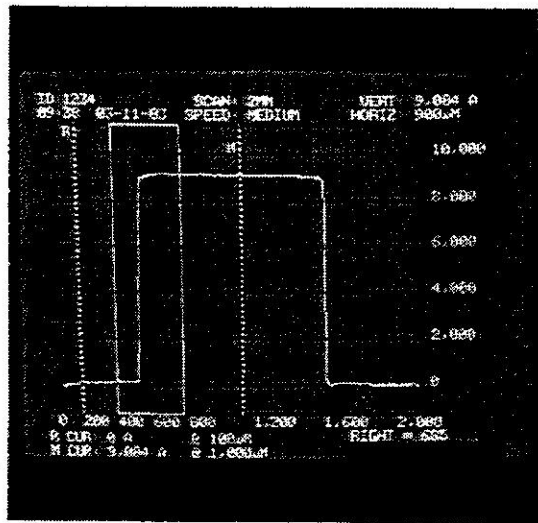
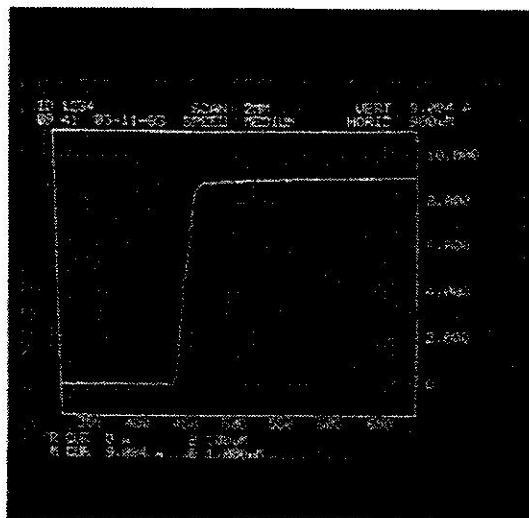

Figure 4-9. Moving the Boundaries
Figure 4-10. After REPLOTT
To magnify an area of interest, press **LEFT** and use the right arrow key to bring the left boundary near the leading edge of the step. Repeat the procedure using the **RIGHT**, **BOT** and **TOP** keys along with the appropriate arrow keys until the screen looks like Figure 4-9.
Press **REPLOTT**. Figure 4-10 shows the replotted profile of Figure 4-9. The graph is rescaled, and the profile has been magnified to allow easy measurement.
5. Press **REPLOTT**. A display similar to Figure 4-9 will be displayed.